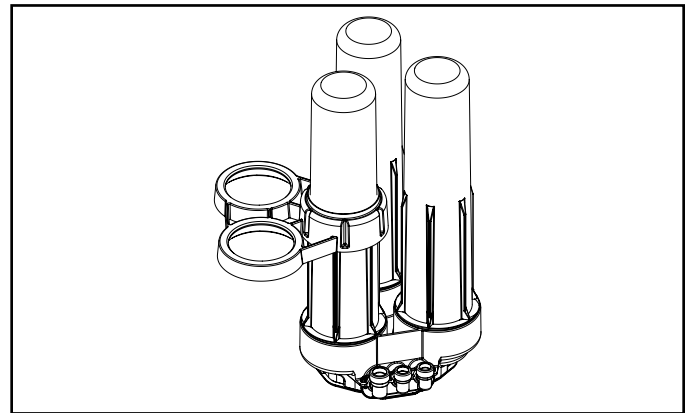

Figure 13
5. Remove the support leg from the three sumps and unscrew the top sump as shown to access the prefilter element. The support leg functions as a wrench to loosen the sump, "Figure 13".
- d. Securely insert O-ring end of elements into manifold. See "Figure 13".